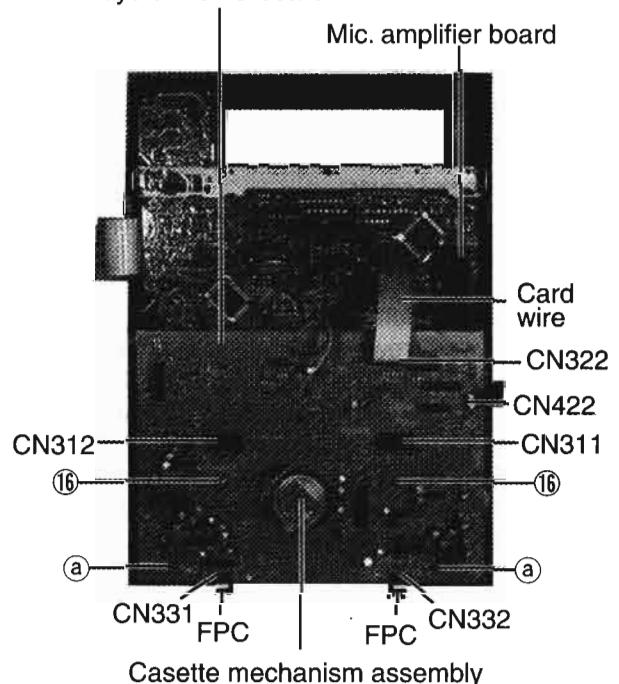

Fig. 14
■ Removal of the Head amplifier & system CPU board (See Figs 14)
4. Remove the two screws ⑯ fastening the head amplifier & system CPU board from the inside of the front panel assembly.(See Fig.14)
8. Disengage the two engagements ① to the cassette mechanism assembly and head amplifier & system CPU board.